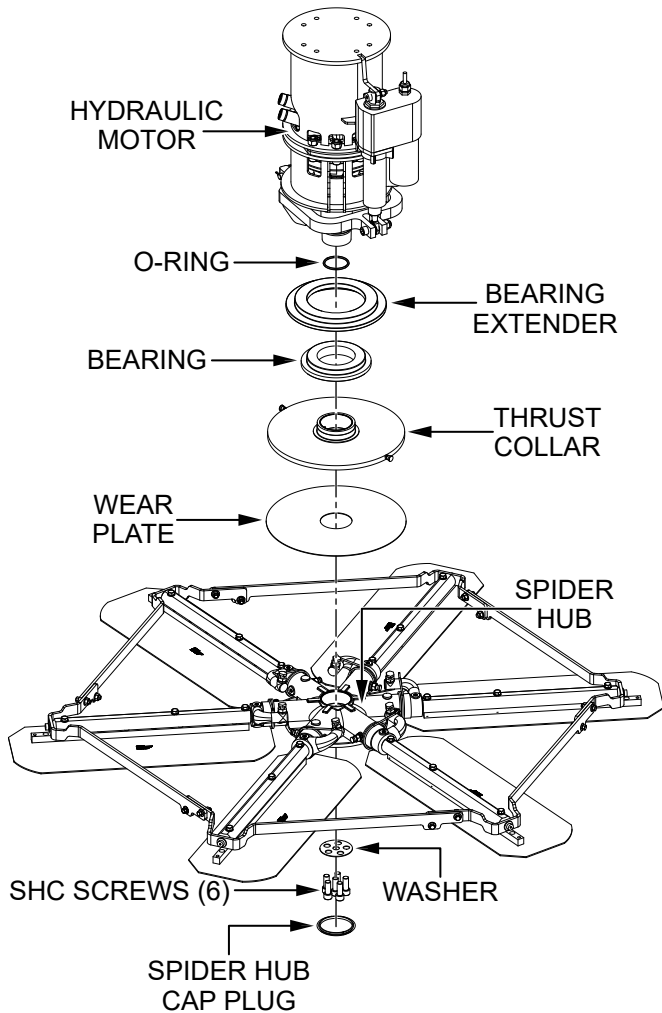

Figure 45. Rotor Assembly Components
5. Remove the **spider hub cap plug** (Figure 45) and set it aside.
6. Remove and set aside the **six socket-head screws** securing the **spider hub** to the **hydraulic motor shaft** (Figure 45).